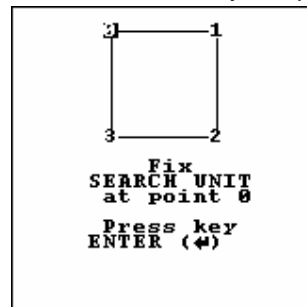

Fig. 34
8. Enter the information requested and press ENTER key. Ultrasonic scanner is ready to be self-calibrated. The quality of position estimation directly depends on the thoroughness, performed by operator during this operation. Request for placing the transducer to the upper left corner (point 0) appears on the Display (Fig. 34). Corners should be bypassed in the following order: upper left (point 0), upper right (point 1), bottom right (point 2), bottom left (point 3)